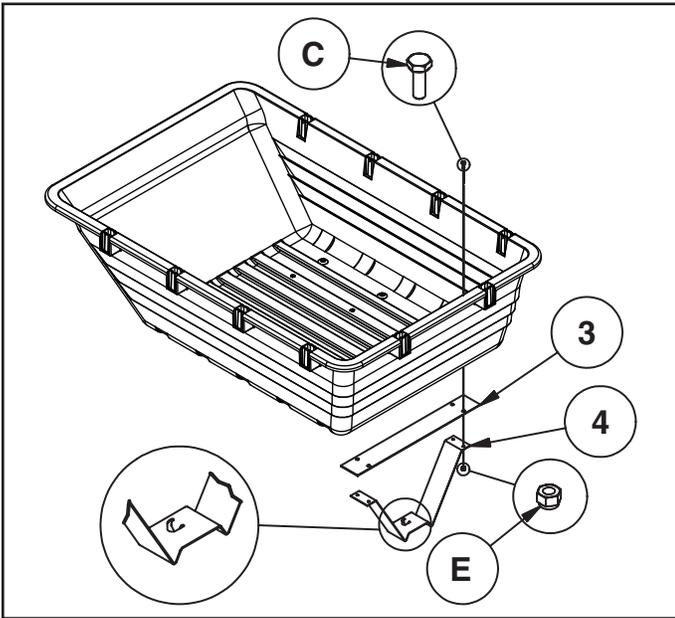

FIGURE 6
STEP 6: (SEE FIGURE 6)
- Assemble the latch stand plate (3) and the latch stand bracket (4) at the front of the tray using four hex bolts (C), and hex nuts (E). The aligning tab on the bottom of the latch stand bracket must be towards the rear of the cart. **Tighten.**